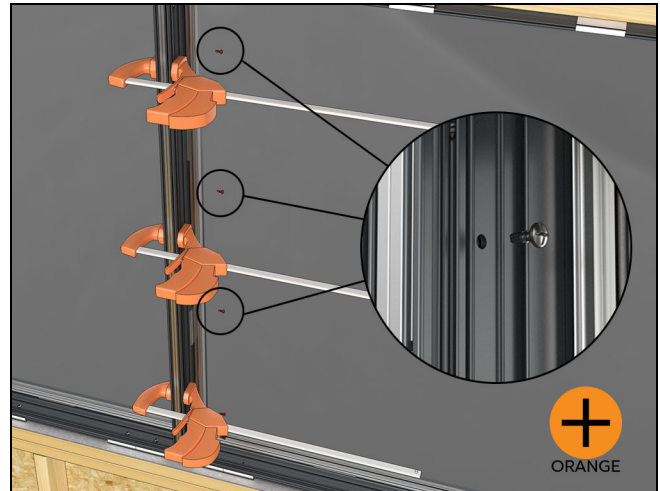

Figure 31
2. Fasten at each pre-drilled hole location with the #8 x 7/16" Phillips head self drilling screws provided. See Figure 31.